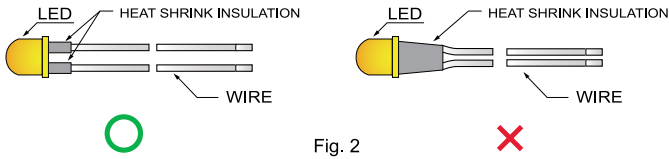

Fig. 2
- When soldering wire to the LED, use individual heat-shrink tubing to insulate the exposed leads to prevent accidental contact short-circuit. (Fig.2)